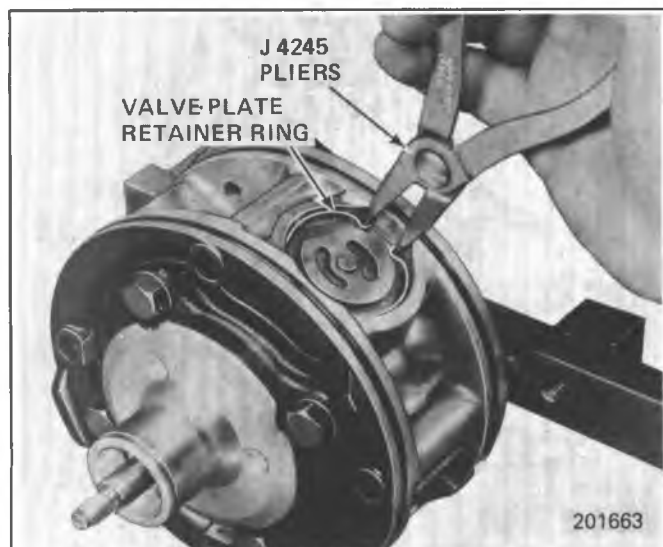

Fig. 1D-103 Replacing R-4 Valve Plate Retainer
4. Install Discharge Valve Plates and/or Retainers as shown in Figs. 1D-103 and 1D-104. Reposition compressor and Holding Fixture in vise as necessary for access.